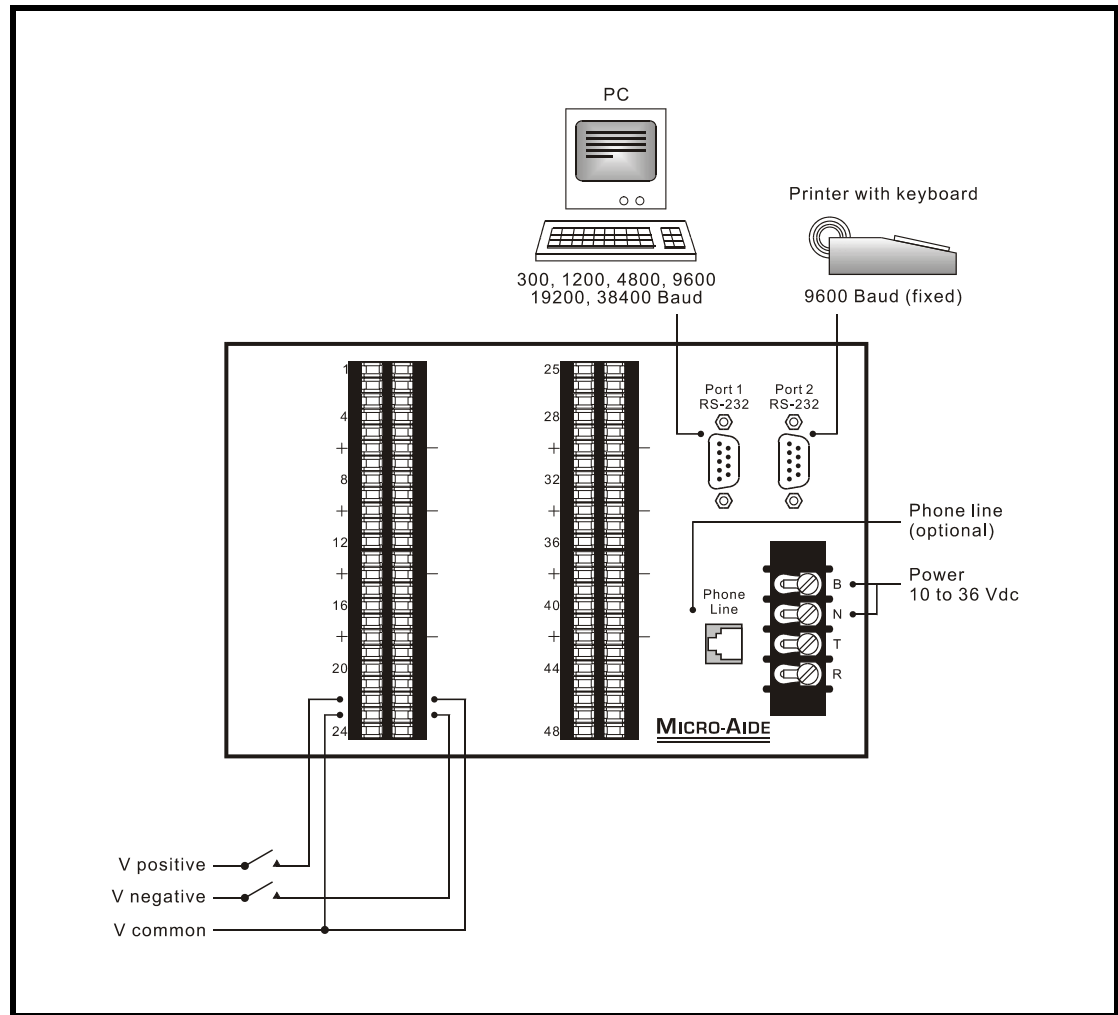

Figure 3 - Typical Installation - Rear Panel View
3. Connect the positive and negative voltages of the power source to the screw terminals at the rear of the unit labeled “B” and “N”, respectively. Typical power, cabling and peripheral connections are illustrated in Figure 3.
Installation of the Model 24D/48D is very straightforward. The following sections describe the recommended installation procedure. Figure 3 on page 7 illustrates the rear panel of the Model 24D/48D. The illustration also depicts the location of each connector and screw terminal.